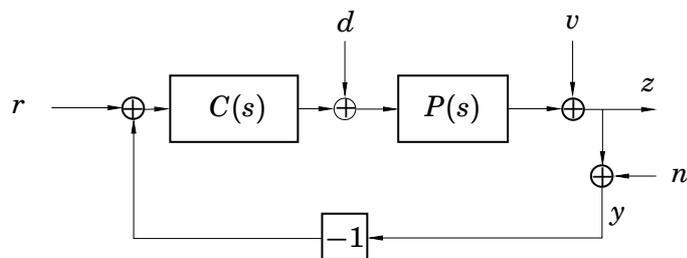

Figure 2.3 System in Problem 2.5
2.5 Study the feedback control system in Figure 2.3, where the process, $P(s)$, is given by